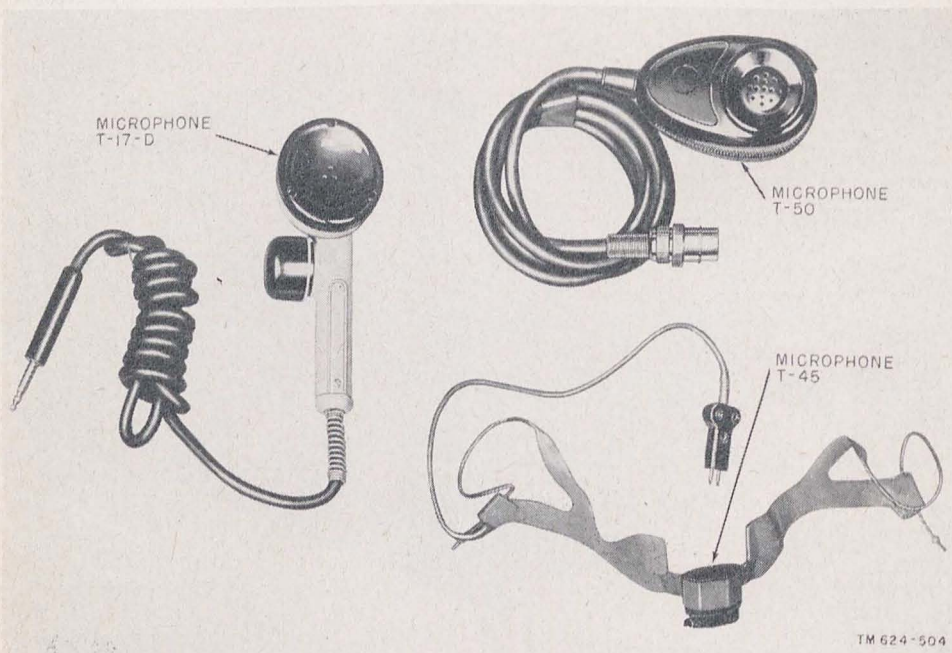

Figure 10. Microphones.
(1) *Microphone T-17-D* (fig. 10). Microphone T-17-D is an antinoise, carbon-button, hand microphone. It is provided with a three-wire cord terminating in a telephone-type plug at one end and permanently connected to the microphone through a push-to-talk switch on the handle. Operation of the switch closes the microphone circuit and connects the third wire to a common ground. The microphone matches a 35- to 90-ohm circuit.
(2) *Microphone T-45* (fig. 10). Microphone T-45 is a lightweight, noise-canceling, single-button microphone. The T-45 is equipped with a harness that loops around the ears of the user and positions the microphone directly in front of the lips. Microphone T-45 is for use under a gas mask, for voice transmission in noisy locations, and for any application
- (3) *Microphone T-50*. (fig. 10). Microphone T-50 is a dynamic, high-impedance (21,000 ohms), hand microphone. It has a 6-foot cord that terminates in a three-pin connector. The microphone is equipped with a press-to-talk switch which, when operated, removes a shorting contact from across the microphone and connects the third wire to a common ground.